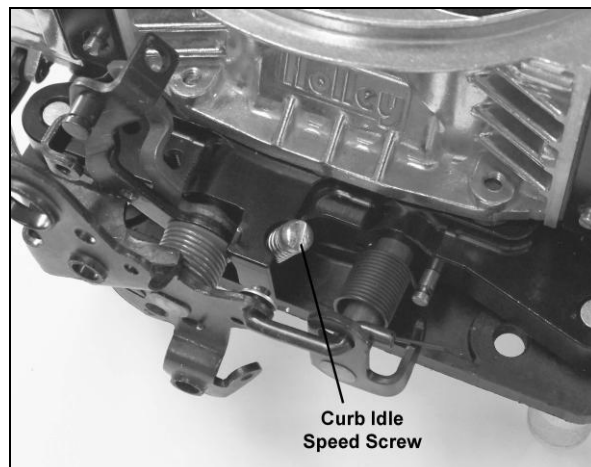

Figure 9
3. Now that the idle mixture is set, it may be necessary to go back and reset the idle speed using the curb idle speed screw, as shown in **Figure 9**.